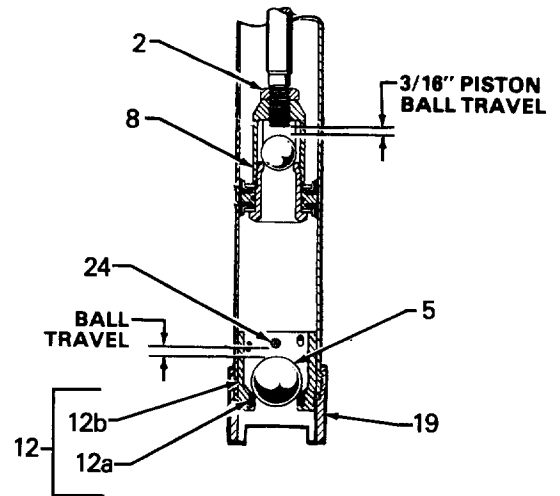

Fig 5
To change the piston ball travel, loosen the locknut (2). Turn the piston body (8) *counterclockwise to increase*, and *clockwise to decrease*. Medium viscosity fluids should have a 3/16 in. (5 mm) ball travel. See Fig 5. Decreasing the ball travel minimizes surging at stroke changeover, but too short a ball travel restricts the flow and slows down the pump.